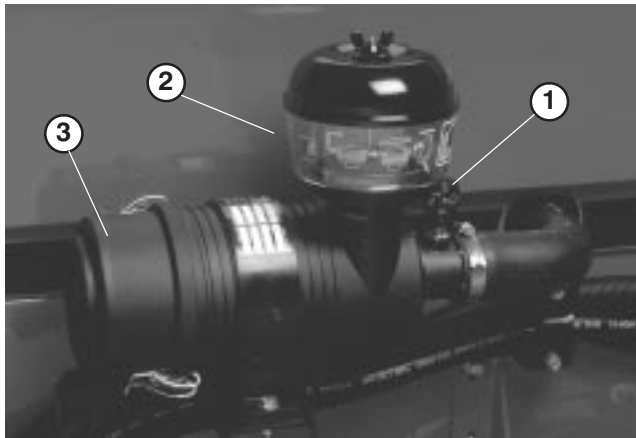

Figure 43
2. Service the air cleaner filters when ever air cleaner indicator (Fig. 43) shows red or every 400 hours (more frequently in extreme dusty or dirty conditions). Do not over service air filter.
SERVICING PRECLEANER BOWL (Fig. 43)
8. Reset indicator (Fig. 43) if showing red.